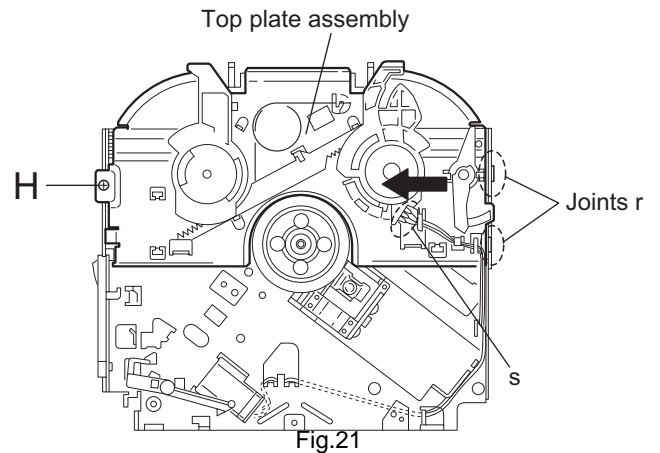

Fig.21
2.2.10 Removing the top plate assembly (See Fig.21)